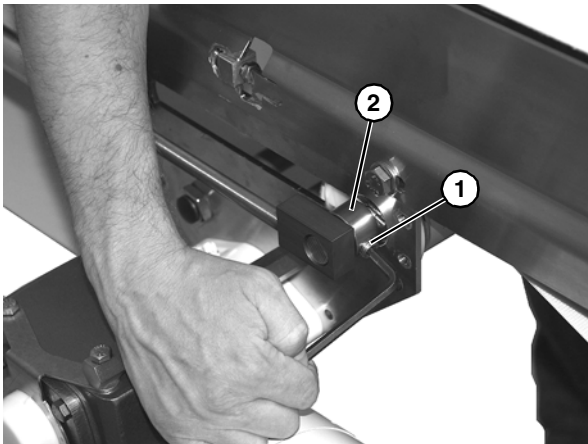

Figure 40
12. Loosen set screw (**Figure 40, item 1**) on locking collar (**Figure 40, item 2**).